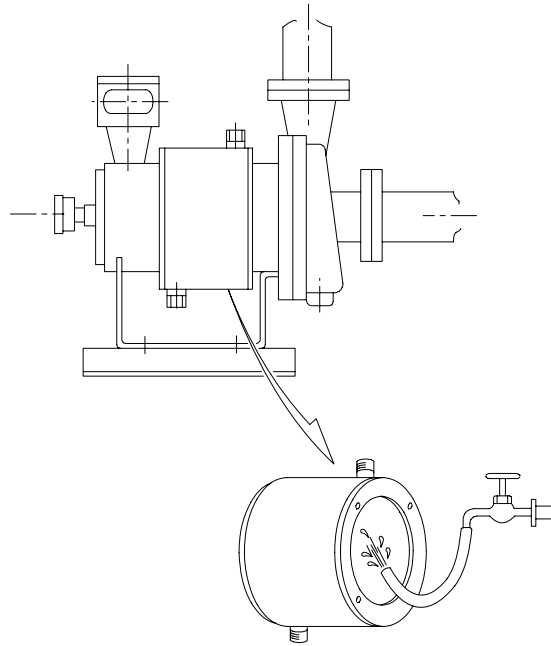

Fig.2-10 Check and Cleaning of the Jacket
- (3) After several months of pump operation, if the thermostat operates while the service conditions are not changed, it is indicative of contaminated jacket. Disassemble and clean the jacket. (Refer to Fig.2-10.) In such a case, periodical cleaning is necessary in general.